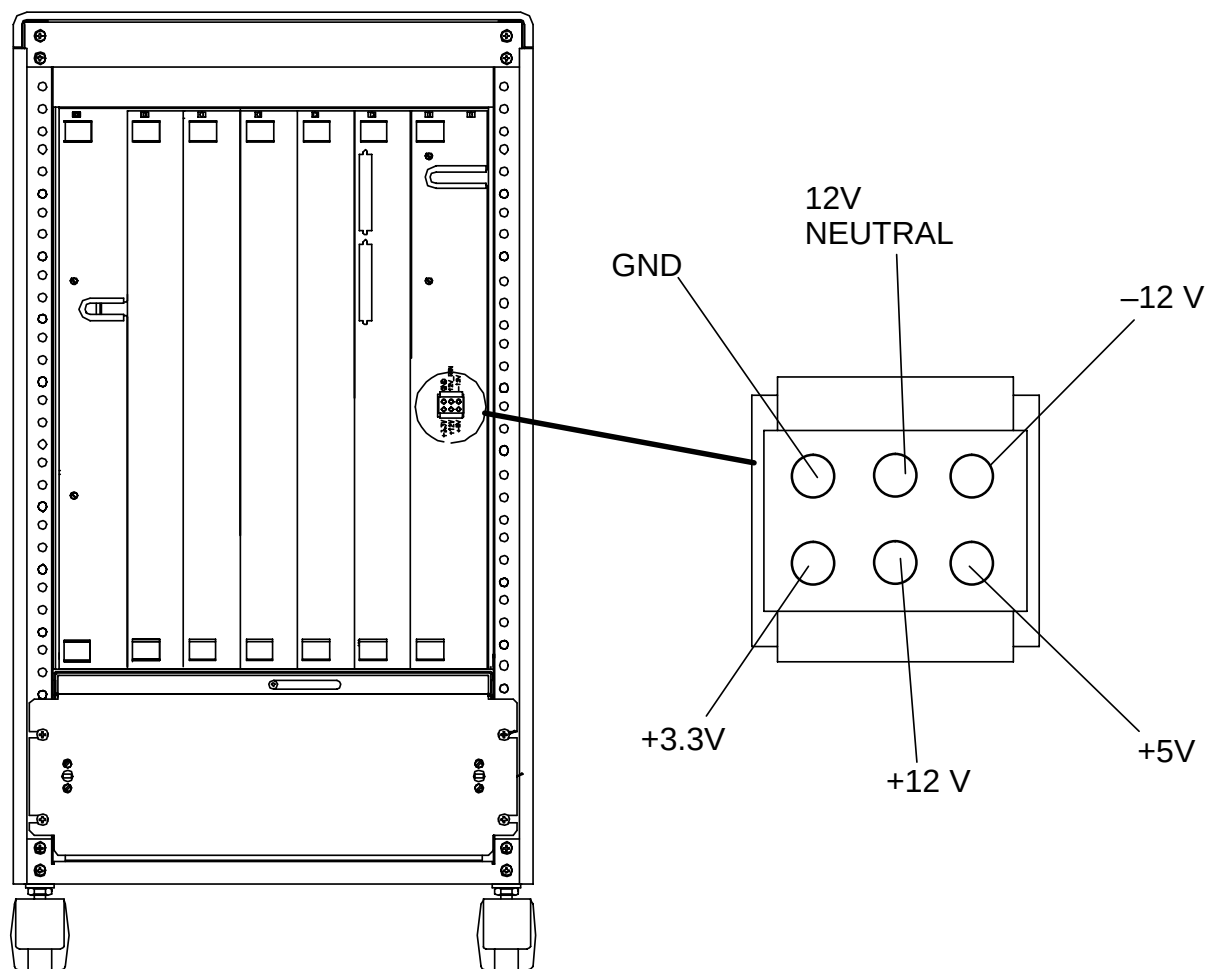

FIGURE 104 POWER SUPPLY VOLTAGE TEST POINTS
3. Set the DMM to a 20 volt or greater DC range. Connect the leads while observing proper polarity to the proper test points (+3.3, +5, and +/-12vdc with respect to ground). Refer to Figure 104.